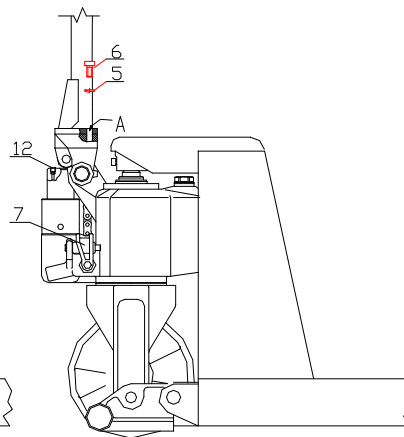

Fig. 2
3.2 Put Spring Grommet (5) under Soket Head Cap Screw (6). Push Soket head Cap Screw (6) into three A-shaped holes by a wrench and tighten it so that Handle (1) and Rack (3) are fixed. See Fig. 2
3.3 Raise Lever Pad (7) by an iron stick and fit the screw and nut at the end of Roller Chain (2) into the groove of Lever Pad (7). Then remove the iron stick to complete the assembling. See Fig. 2 and 4.
1. See Fig.2. Relax Screw (12) in counterclockwise and slowly shake the Handle until the oil overflows at this point. Stop the Handle and then tighten the Screw (12) in clockwise.